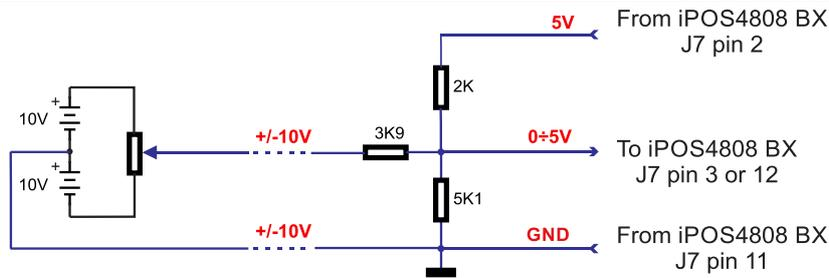

Figure 3.9. +/-10V to 0-5V adapter
1. Default input range for analog inputs is 0-5 V for REF and FBDK. For a +/- 10 V range, see Figure 3.9.